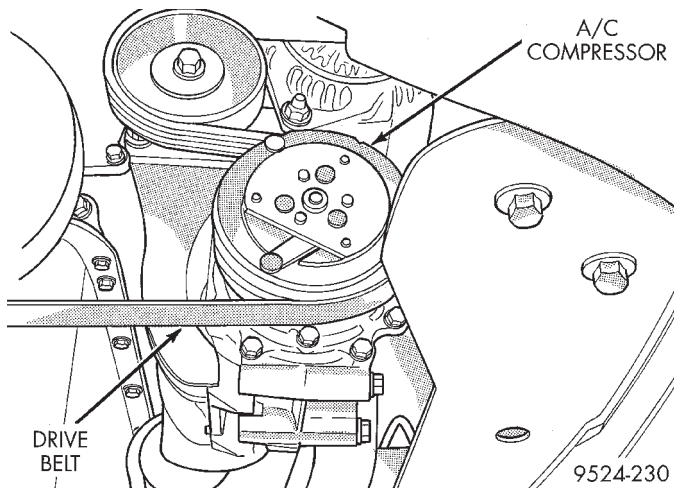
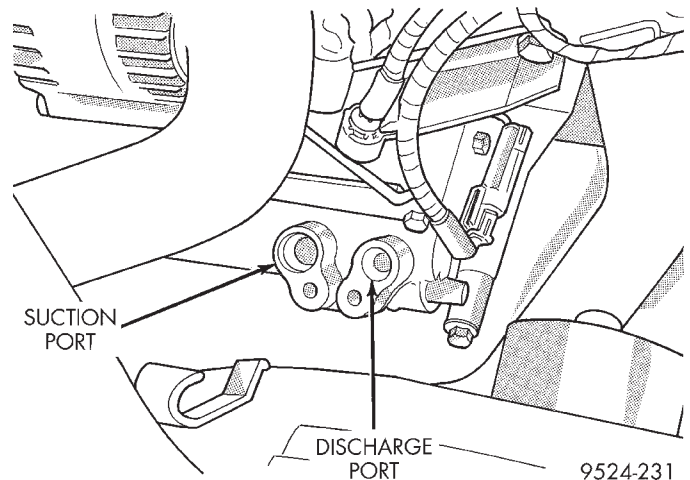

Fig. 16 Drive Belt
Fig. 17 A/C Lines
- (1) Disconnect the battery negative remote cable.
- (2) Loosen and remove drive belt (Fig. 16). Refer to Group 7, Engine Cooling.
- (3) Disconnect compressor clutch wire lead.
- (4) Recover refrigerant system with R-134a recovery unit.
- (5) Remove refrigerant lines from compressor (Fig. 17).